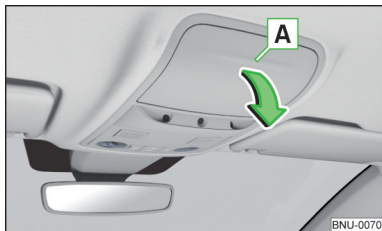

Fig. 115
- ▶ To **open**, press on the outer edge of the glasses compartment in area **A**. The compartment folds in the direction of the arrow » Fig. 115.